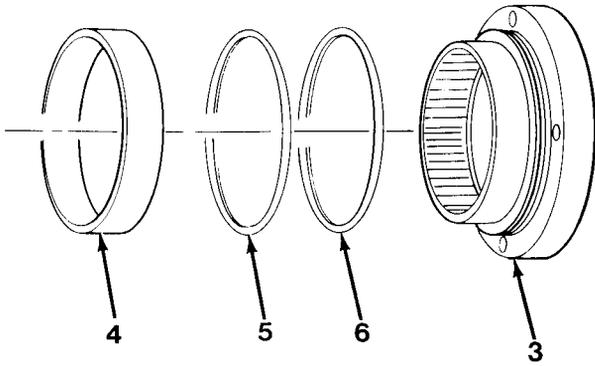

Figure 16-2
2. Remove seal (4), O-ring (5) and back-up seal ring (6) from motor support (3, Figure 16-2).